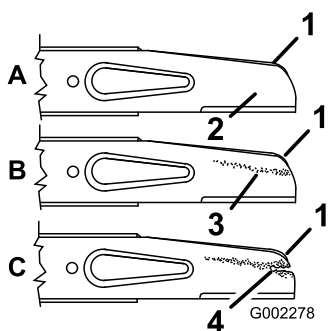

Figure 32
2. Remove the blade nuts, the accelerator, and the blade (Figure 32).